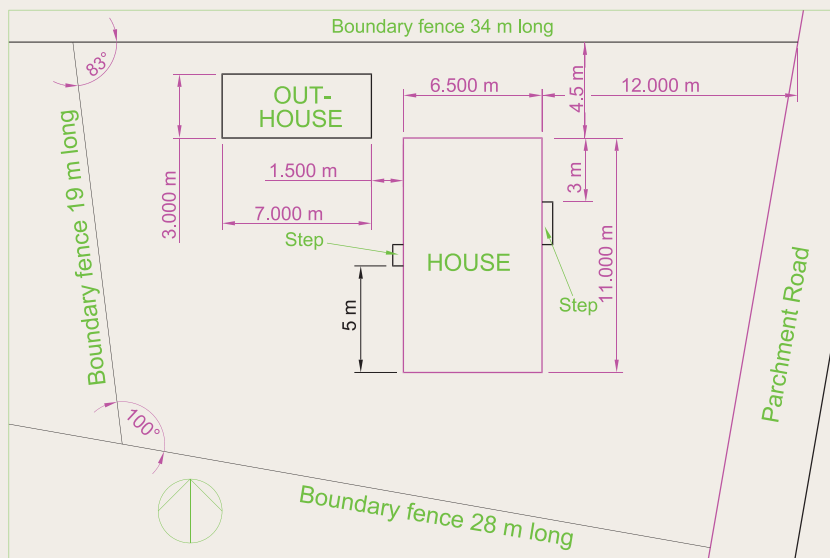

Fig. 16.29 Exercise 2
2. Fig. 16.29 is a site plan of a two-storey house a building plot. Design and construct to a scale 1:50, a suggested pair of floor layouts for the two floors of the proposed house.